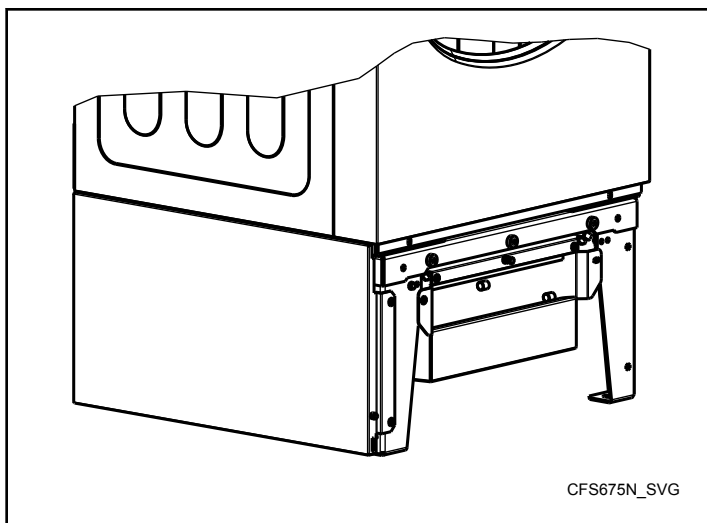

Figure 48
2. Remove the front cover of the filter base frame. Refer to *Figure 48*.